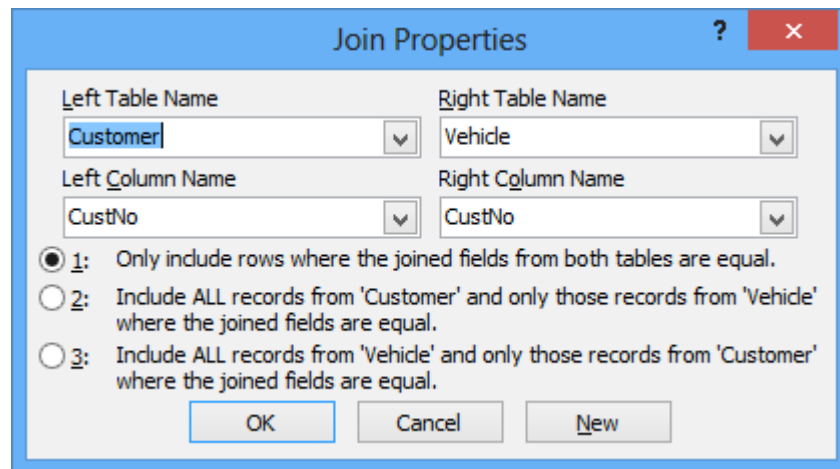
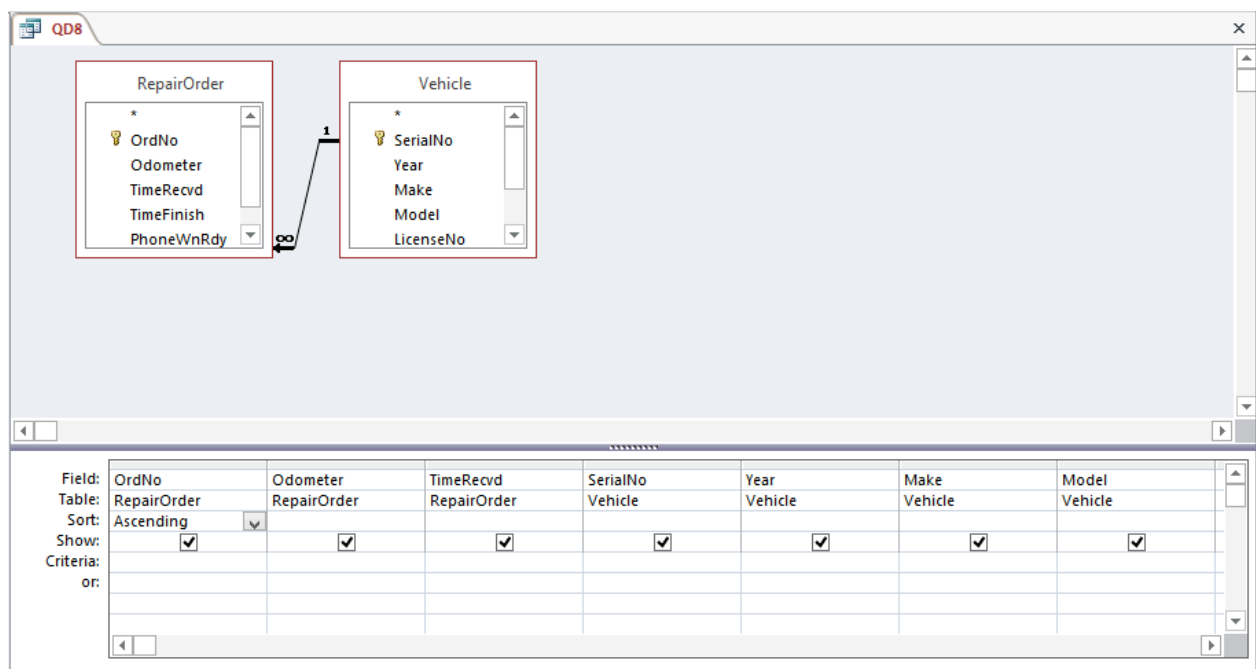

Figure 27: Join Properties Window
Figure 31: Query Design Window of Completed “QD8”
8. View the Join Properties Window: A line appears connecting the two tables as they appeared in the Relationships window from Chapter 2.⁷ Double-click on this line to reveal the Join Properties window (Figure 27). A join operator should connect these tables. Later in this chapter, you will use the outer join operator. Confirm that the first choice (join) is selected and click **OK**.
9. Change the Connection Type: In the Query Design window, double-click on the line connecting the tables to open the Join Properties window (refer back to Figure 27). Select the second choice, “Include ALL records from ‘Vehicle’ and only those records from ‘RepairOrder’ where the joined fields are equal.”, and then click **OK**. This choice connects the tables with a one-sided join that preserves the *Vehicle* records. In Figure 31, note the arrow from the *Vehicle* to the *RepairOrder* table indicating a one-sided outer join.